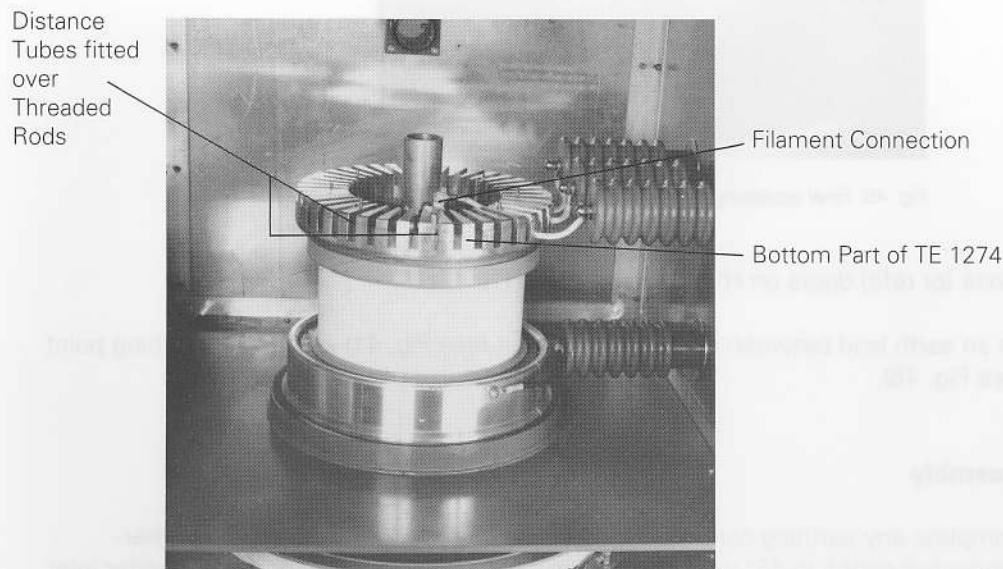

Fig. 44. Fitting the lower Part of the Cathode Cooling Ring Assembly (TE 1274)
- (b) Unpack connecting cables (TE 1271) and connect them to the terminals of the four HV connectors (see Fig. 44) inside the HV connection unit (TE 1263) as follows:
- (f) Fit the lower part of the cathode cooling ring assembly (Fig. 44) over the threaded rods.
- (h) Connect the filament clamp (Fig. 44) over the insulated filament terminal and tighten its screw (see also Fig. 2).
- (l) Thread the cables between the fins of the lower part of the cathode cooling ring, as shown in Fig. 44.